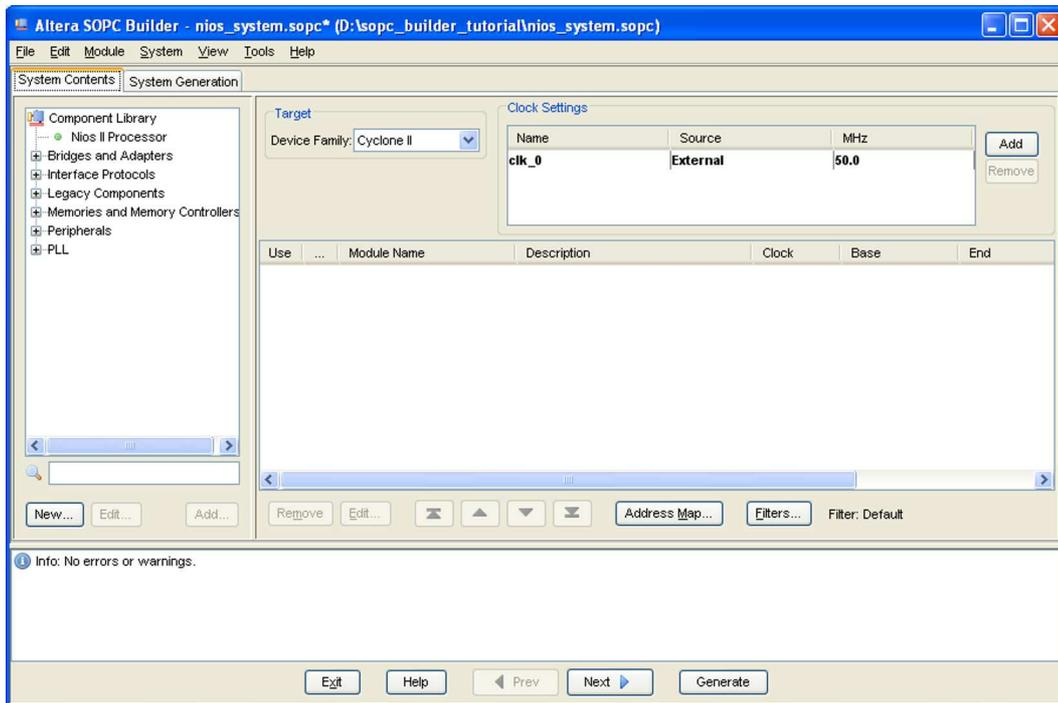
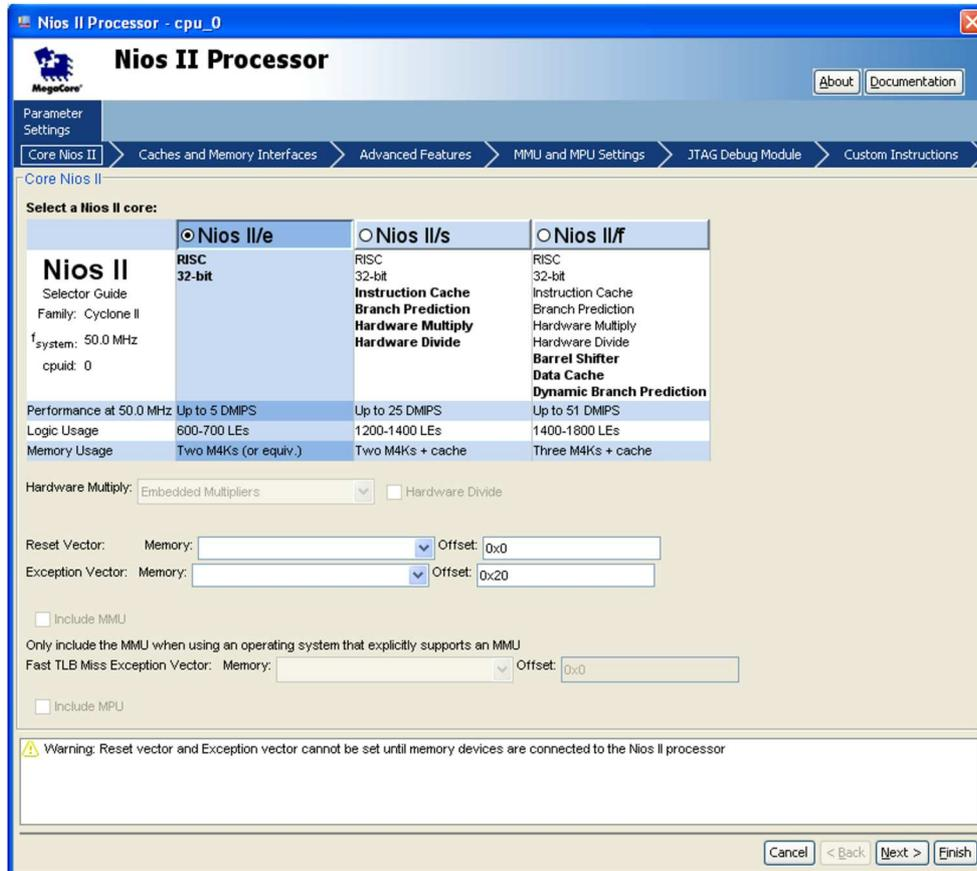
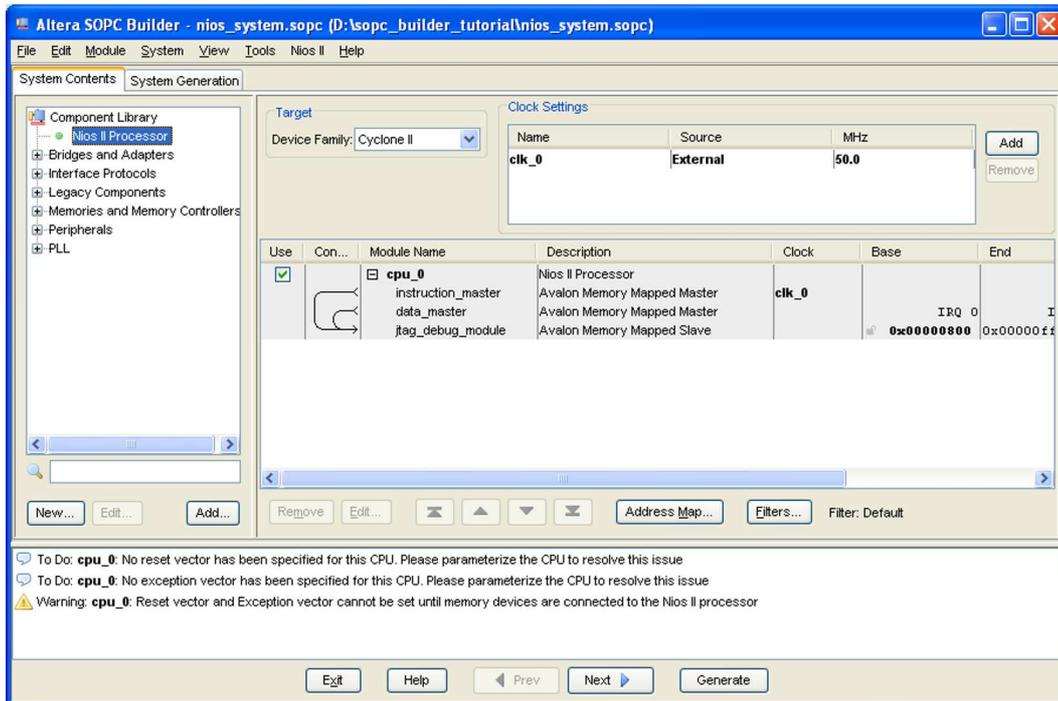

Figure 5. The System Contents tab window.
Figure 6. Create a Nios II processor.
Figure 7. The defined processor.
2. Select **Tools > SOPC Builder**, which leads to the pop-up box in Figure 4. Enter *nios\_system* as the system name; this will be the name of the system that the SOPC Builder will generate. Choose VHDL as the target HDL, in which the system module will be specified. Click OK to reach the window in Figure 5.
3. Figure 5 displays the System Contents tab of the SOPC Builder, which is used to add components to the system and configure the selected components to meet the design requirements. The available components are listed on the left side of the window. Before choosing our components, examine the area in the figure labeled Target. Check the setting for the Device Family and ensure that Cyclone II is selected.
4. The Nios II processor runs under the control of a clock. For this tutorial we will make use of the 50-MHz clock that is provided on the DE2 board. As shown in Figure 5, it is possible to specify the names and frequency of clock signals in the SOPC Builder display. If not already included in this list, specify a clock named *clk\_0* with the source designated as External and the frequency set to 50.0 MHz.
- On the left side of the window in Figure 5 select Nios II Processor and click Add, which leads to the window in Figure 6.
- Choose Nios II/e which is the simplest version of the processor. Click **Finish** to return to the window in Figure 5, which now shows the Nios II processor specified as indicated in Figure 7. There may be some warnings or error messages displayed in the SOPC Builder Messages window (at the bottom of the screen), because some parameters have not yet been specified. Ignore these messages as we will provide the necessary data later.